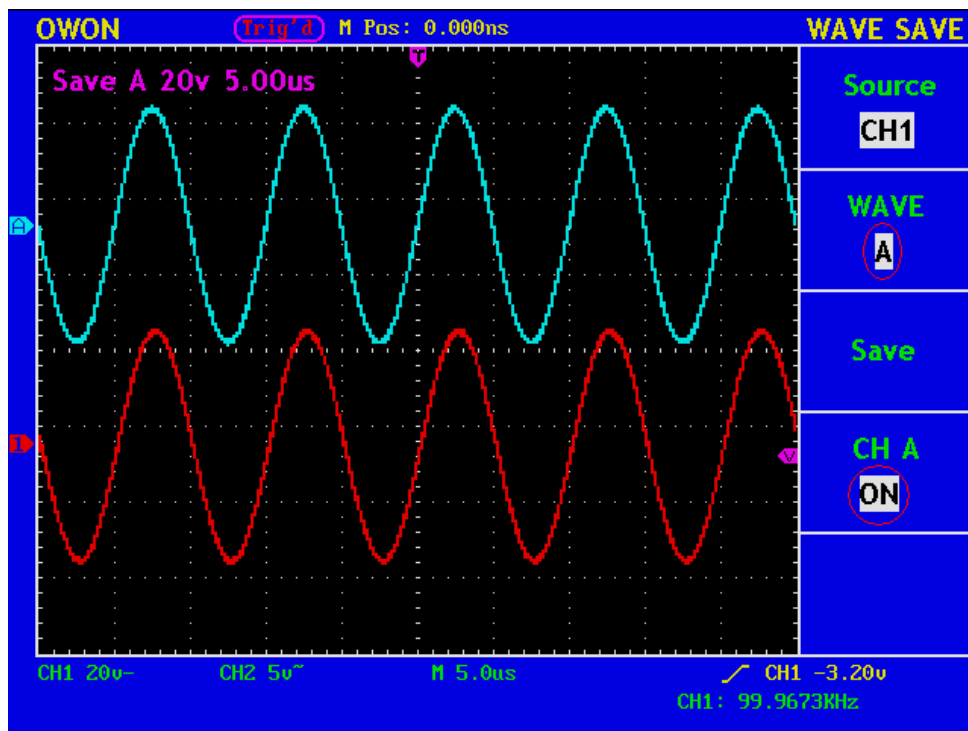

Fig. 51 Wave Saving
4. Press the **F4** menu selection button and choose **ON** for CH A. The stored waveform A will be displayed in the screen. The voltage level and time base level will also be shown at the upper left corner of the display area at the same time (see Fig.51).